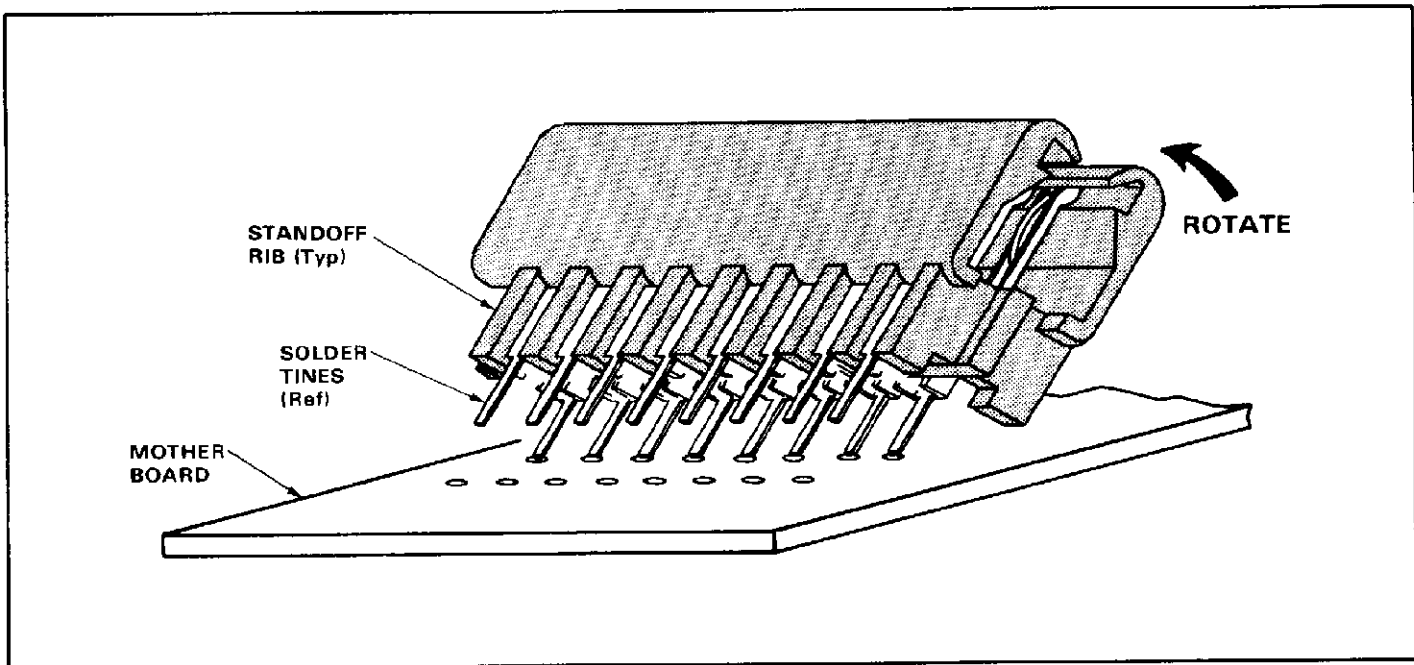

Fig. 5
1. Hold the connector at a slight angle to the mother board and start one row of contacts into the contact holes as shown in Figure 5.